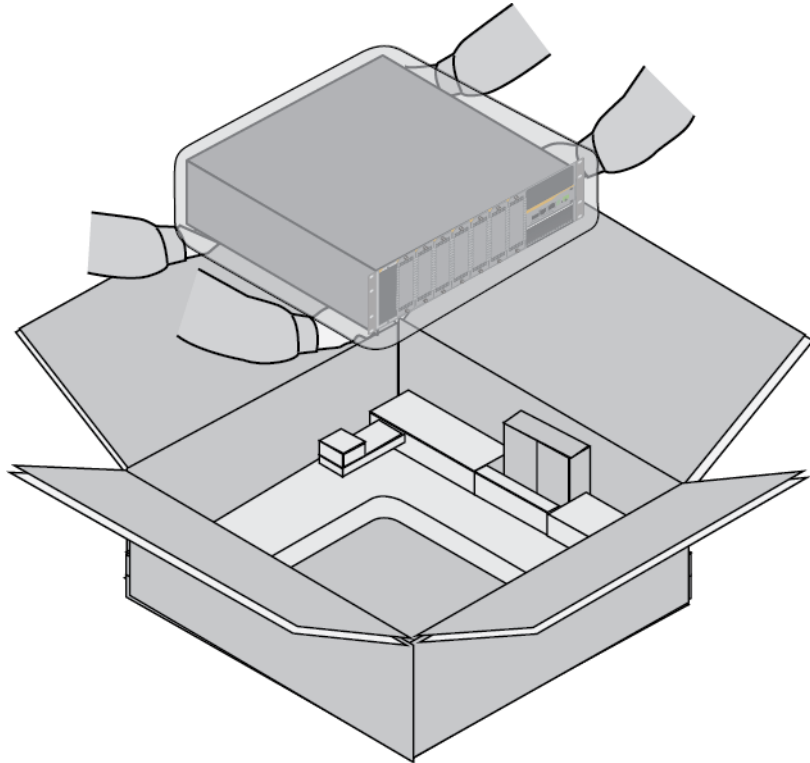

Figure 11. Lifting the Switch from the Shipping Box
1. Lift the switch from the shipping box and place it on a level, secure table. Refer to Figure 11 on page 45.